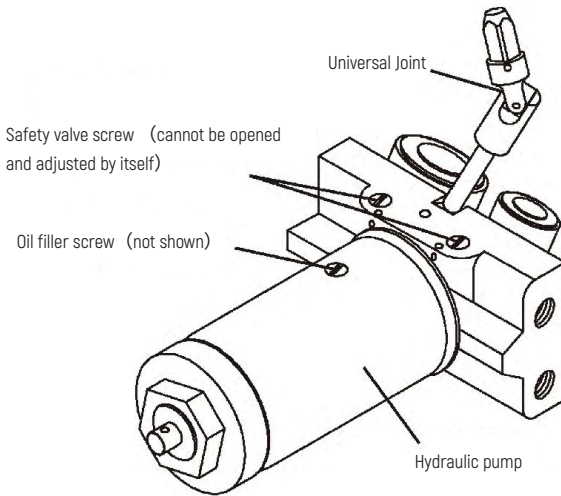

Figure 2
- 1) Release the oil filler screw but do not remove it (see Figure 2) .
- 5) Tighten the oil filler screw (see Figure 2) .
- 1) Remove the oil filler screw (see Figure 2) .
- 2) Align with the oil filler and slowly add qualified hydraulic oil (see Figure 2) until it is 0.6 cm from the oil filler (note: do not press the operating handle when adding oil) .